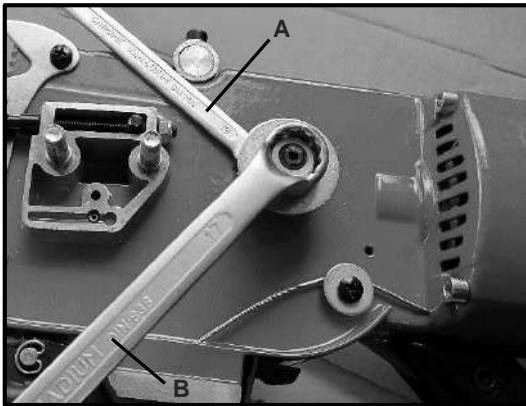

Figure 16 – Dismounting of the chain sprocket.
Block the sprocket with a hex nut wrench (13 mm) (A) and then unscrew the hexagon nut with a 17 mm-wrench (B) turning clockwise (see Fig. 16).